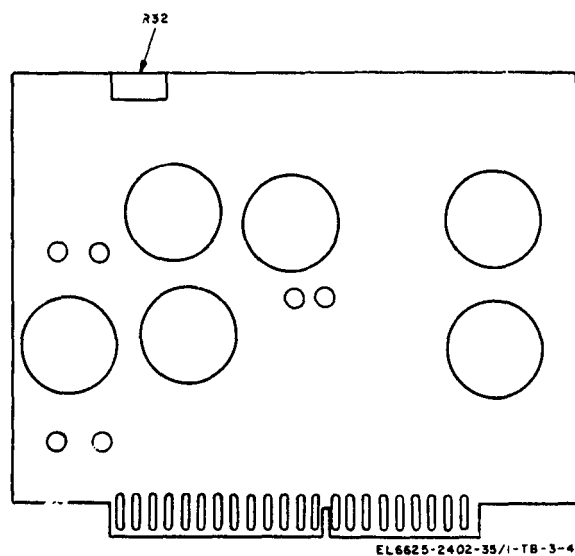

Figure 3-4. Component assembly A4.
(2) Set calibrator FUNCTION SELECTOR switch to HELIX FDBK STOP RMP.
(3) Multimeter indicates between -0.1 and +0.1 vdc.
b. Adjustments. Adjust UUT R32 (fig. 3-4) for multimeter indication of 0.00 vdc.